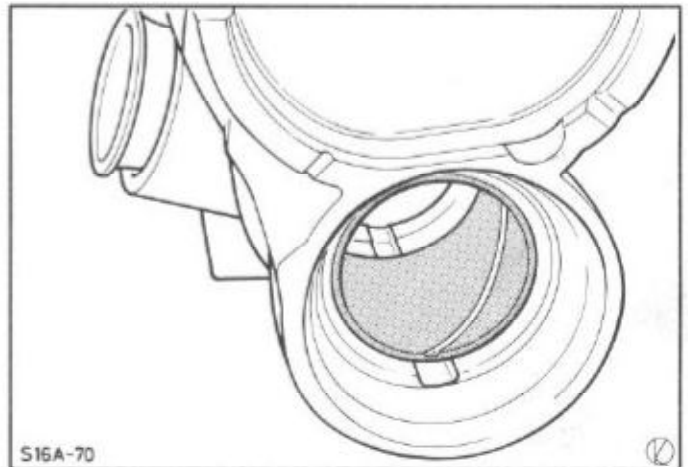

Fig.145. Oil return groove and notch line up.
- NOTE: Oil return groove in extension housing and start of oil groove in bush must line up when it is fitted, Fig.145.